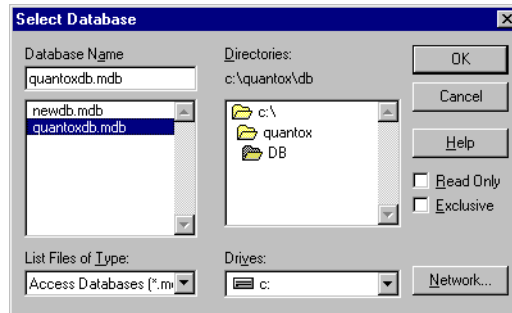

Figure B-27: Select Database Dialog Box
6. In the Select Database dialog box, locate the database file (*.mdb) to be used (Figure B-27).